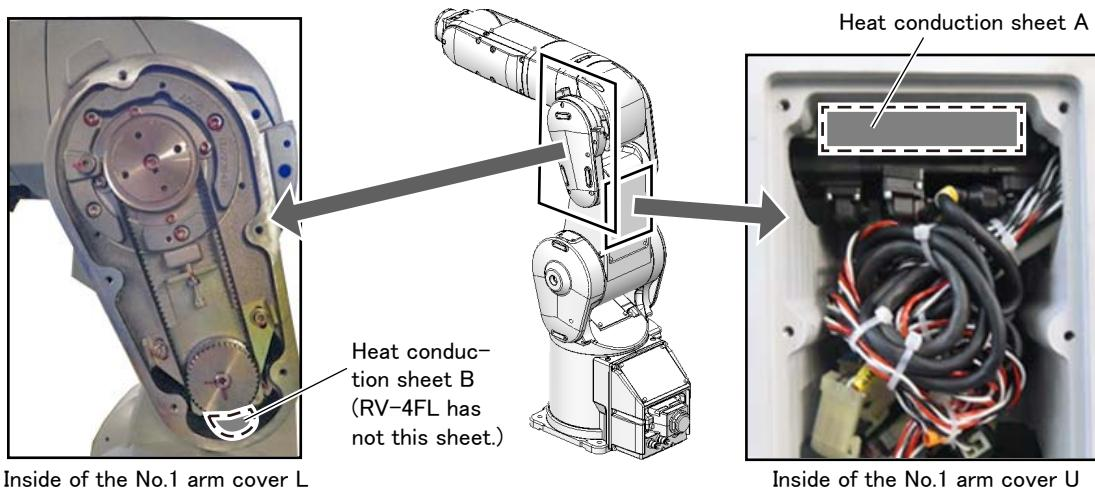

Fig.5-8 : Heat conduction sheet position
- 3) Remove the heat conduction sheet A stuck on the J3 axis motor (see Fig. 5-8). Be careful not to get any dust, etc. on the adhesive side.
Be careful not to shift the heat conduction sheet B (see Fig. 5-8).